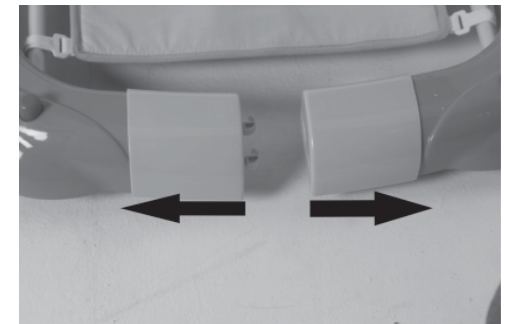

Fig. 19
2. Separate both blocks and repeat procedure on opposite side. Fig. 19